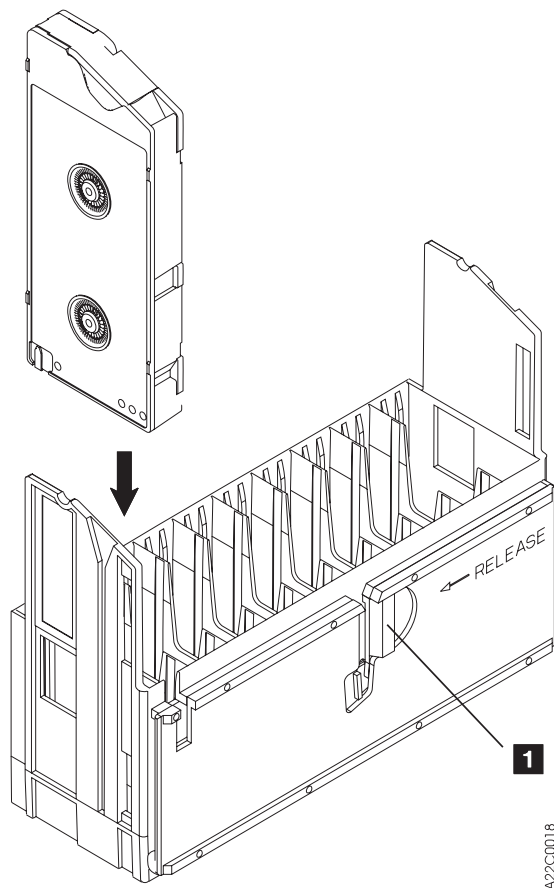

Figure 62. Loading a Cartridge in a Magazine (with the Operator Side Facing Down)
Perform the following steps to load the magazine with cartridges when the magazine is not in the library (see Figure 62).
3. Insert the cartridge in the orientation that is shown in Figure 62.
3. Slide the cartridge magazine into the magazine opening **3** until it seats fully. The magazine is oriented with its own release latch (see **1** in Figure 62 on page 128) on the bottom.